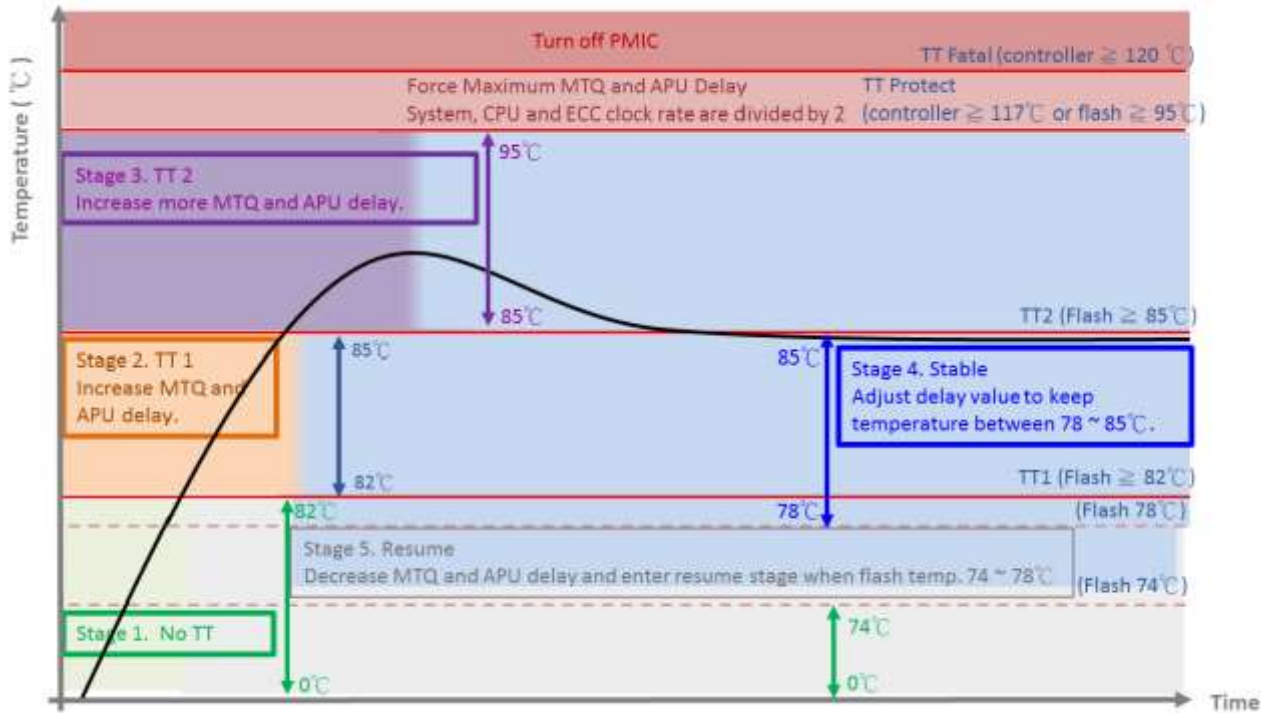

Figure 2-2 Thermal Throttling Schematic
1. TT shown on Figure 2-2 means “Thermal Throttling”.